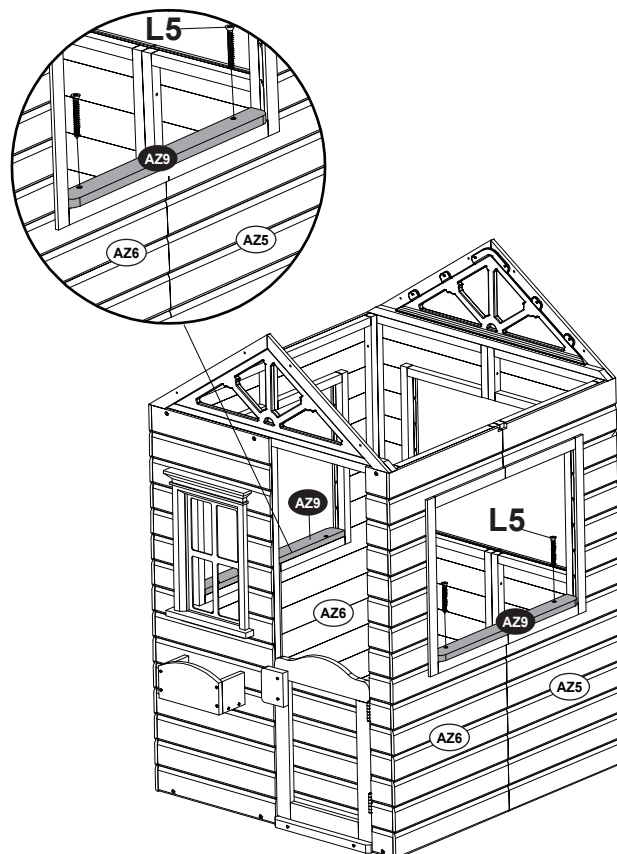

FIGURE 8
- Connect AZ9 to AZ5 and AZ6 using L5 (4pcs) as shown in Figure 8.